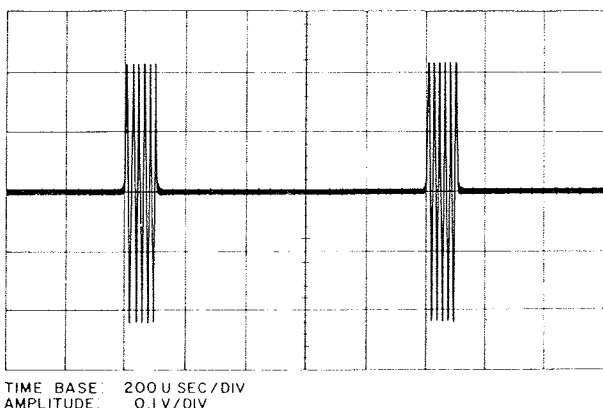

Figure 6.22 – Right Side of R61 Waveform
p. Reconnect oscilloscope to terminal E91 (or right side of R61). The observed 1 kHz spectrum waveform should resemble the one shown in figure 6.22.